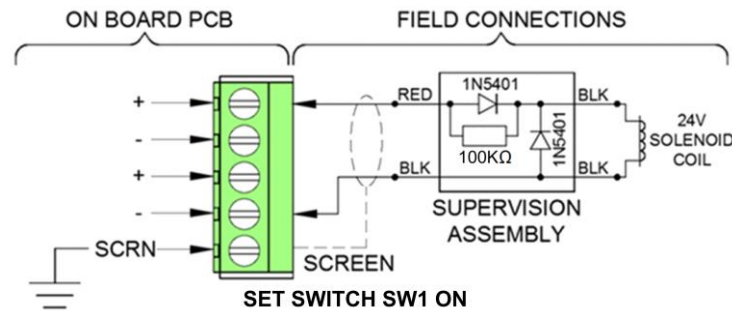

Figure 4 – 24 Volt Solenoid Connections
A single 24V solenoid must be connected as shown in Figure 4. DIL switch SW1 must be in **ON** position and the solenoid needs to be connected between terminals 1 and 4 at the Solenoid Valve terminal block. The maximum cable length between the Solenoid and the SRM must not exceed 3 meters.
*A Supervision Assembly must be used between the solenoid and the SRM, see Figures 4 & 5.*